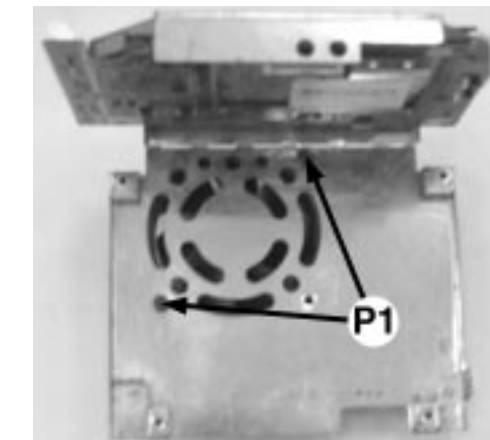

Figure 14C
- 5) Loosen 2 screws P1 (see Figure 14C) to remove the Fan (pos 1111).